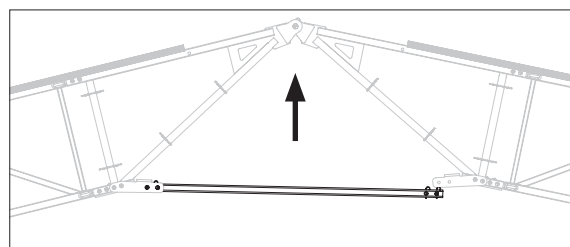

Fig. A4.02b
3. Lift the girder package with the crane until the holes at the free end of the rectangular tube are level with the holes in the brackets of the ridge bar (19.5). (Fig. A4.02b)